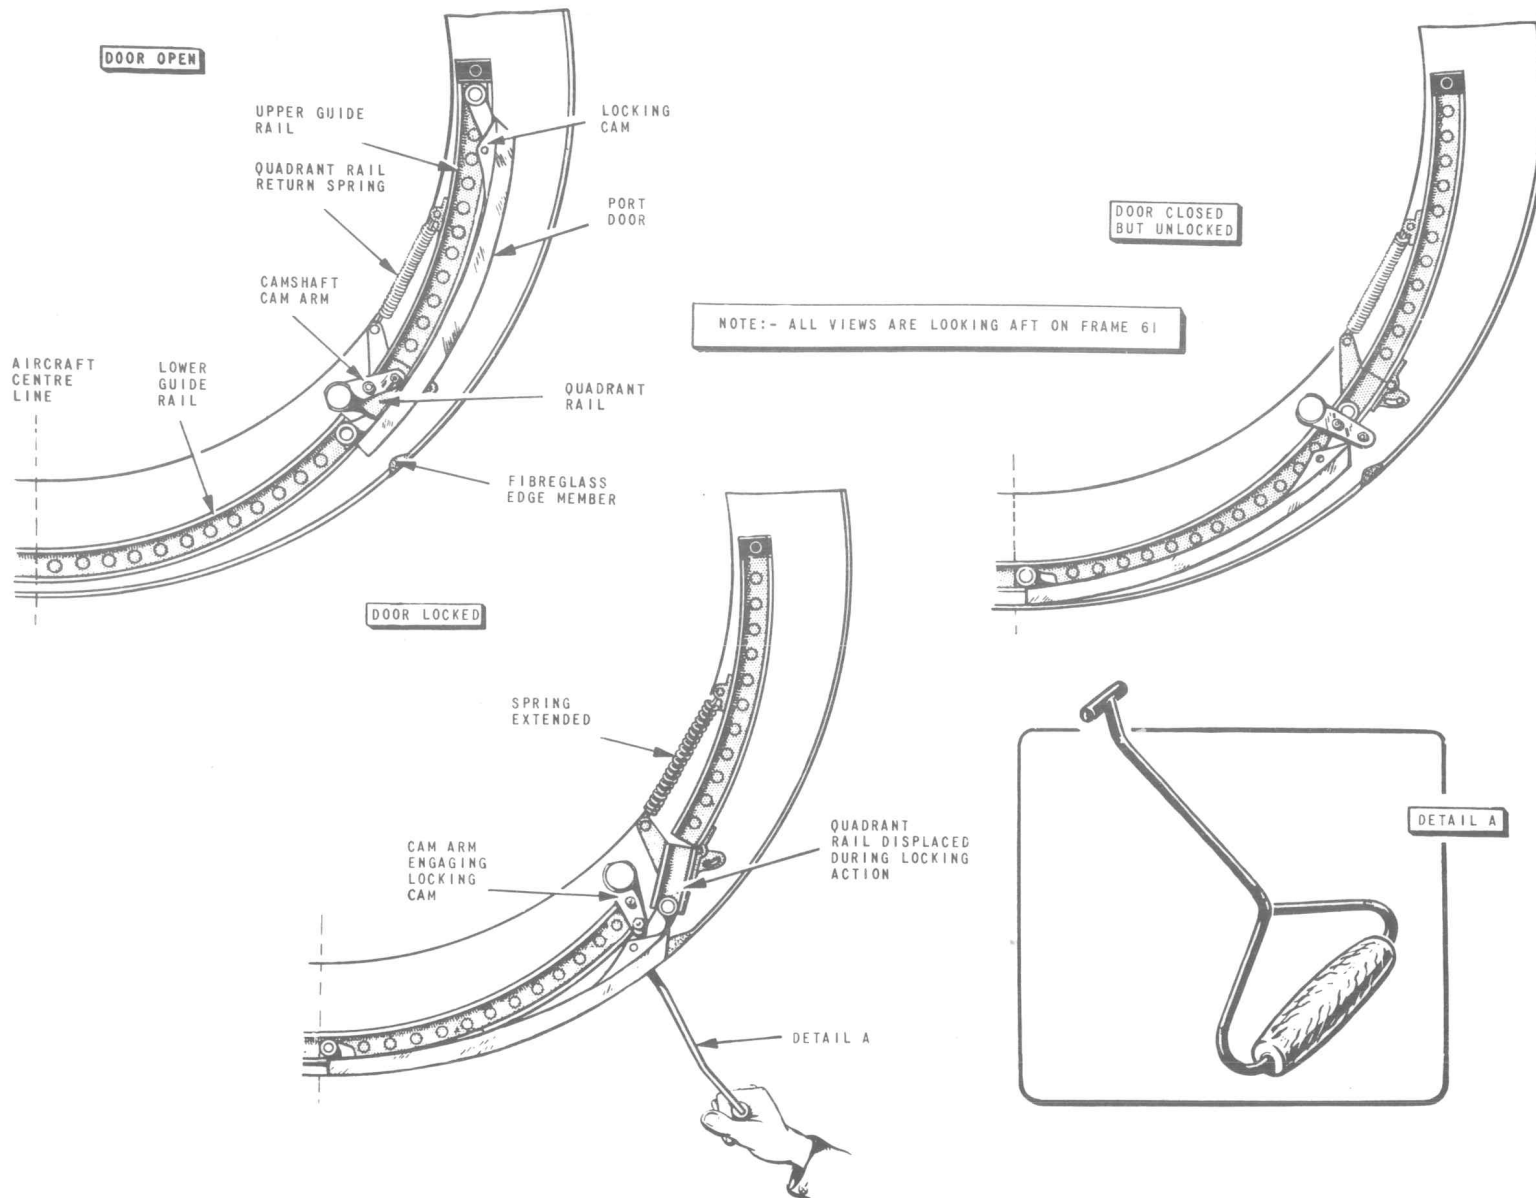

FIG. 2. DOOR-LOCKING MECHANISM
### Door guide rails (fig.2)
9. Along each side of the parachute compartment is a camshaft assembly supported in self-aligning bearings in frames 60 and 61. Each camshaft has a torque spring and a pulley at its forward end, and two cam arms spaced along its length. When the doors are locked, the cam arm rollers contact the door cams (*para.4*) and prevent the doors lifting (*fig.2*). The slotted link (*para.7*) permits the door-opening mechanism to reset without moving the camshafts, which are reset automatically by the torque springs during locking of the doors.